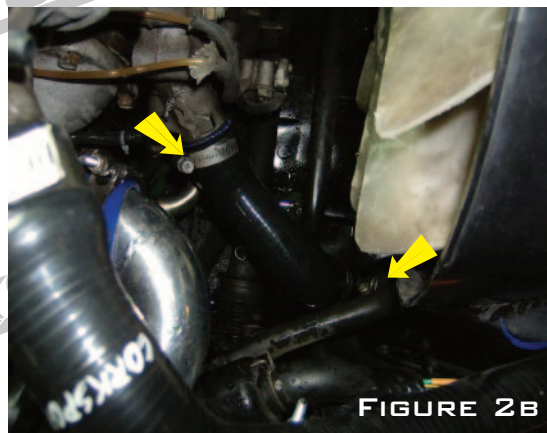

FIGURE 2B
B) REINSTALL THE LOWER SILICONE RADIATOR HOSE AND TIGHTEN WITH THE TWO PROVIDED 38-43MM T-BOLT CLAMPS AS SHOW IN FIGURE 2B.